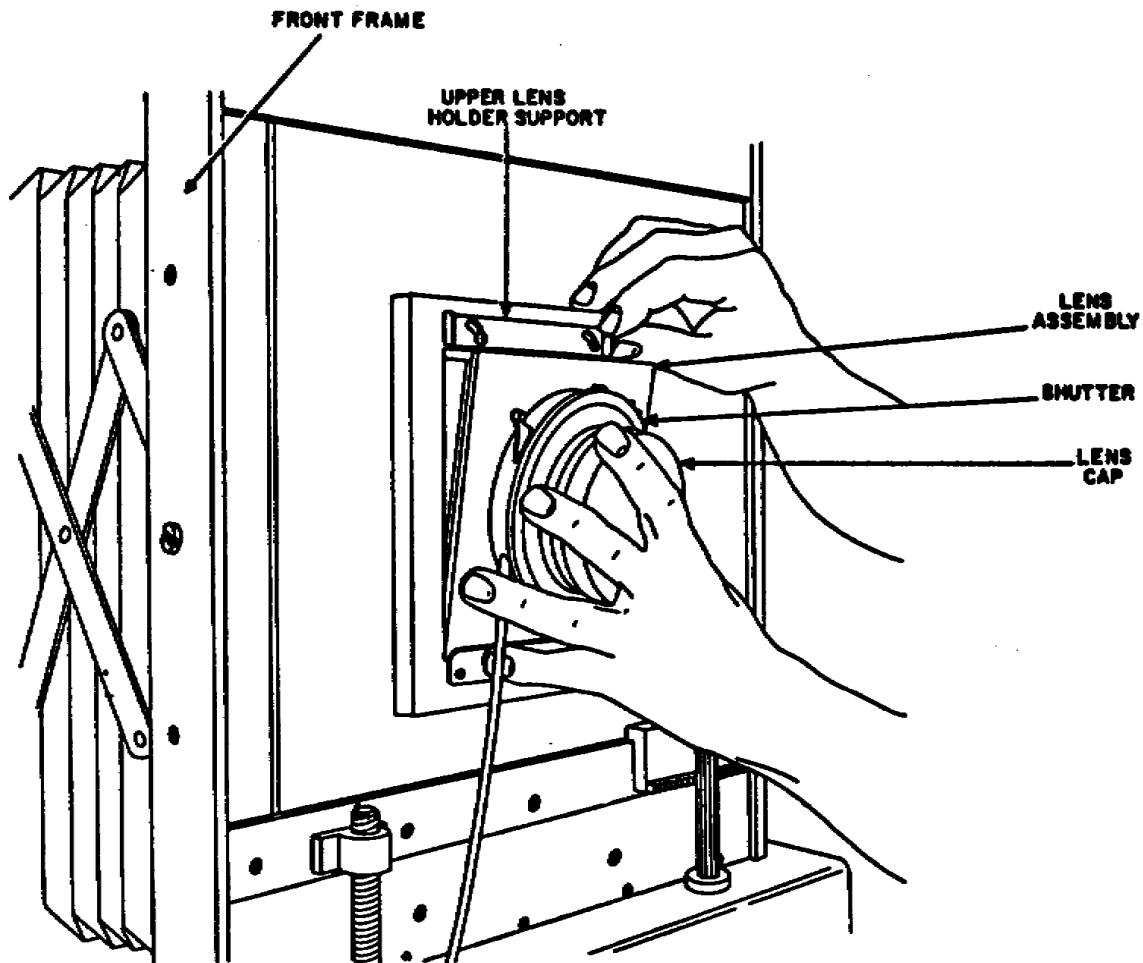

FIGURE 15. Removing and replacing lens assembly.
(1) Raise the upper lens holder support (figure 15) and withdraw the lens assembly from the front frame.
26 Lens cap (figure 15)	Replace on lens.